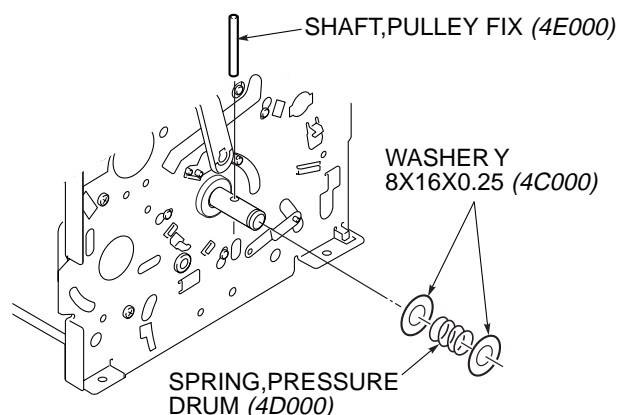

Fig. 3-14-1
(See Figs. 3-14-1 to 3-14-4)
- 7) Pull out the “SHAFT,PULLEY FIX (4E000)” and remove the two “WASHER Y 8X16X0.25 (4C000)” and the “SPRING,PRESSURE DRUM (4D000)”. (Refer to Fig. 3-14-1.)